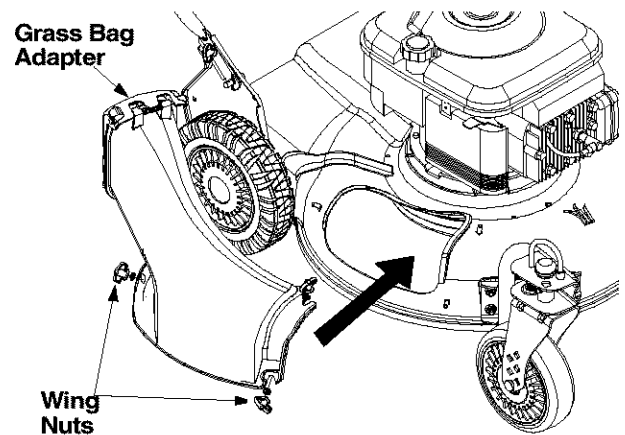

Figure 7
- Replace with grass bag adapter, while making sure the front lip of adapter goes under the edge of the deck. Secure with wing nuts previously removed. See Figure 7 .